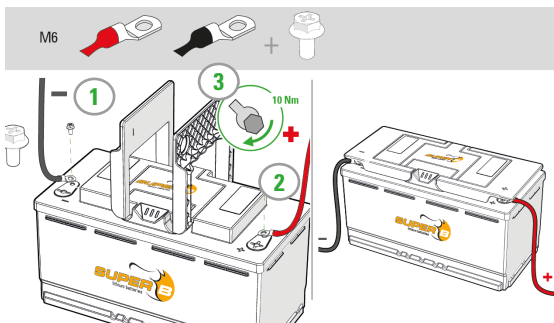

Figure 12. Connecting accessories to the terminals.
1. Connect the plus of the power cable of the small consumer to the X2 (+) terminal of the Li-ion battery (Figure 12). Use the included M6 bolt.
2. Connect the minus of the power cable of the small consumer to the X1 (-) terminal of the Li-ion battery (Figure 12). Use the included M6 bolt.